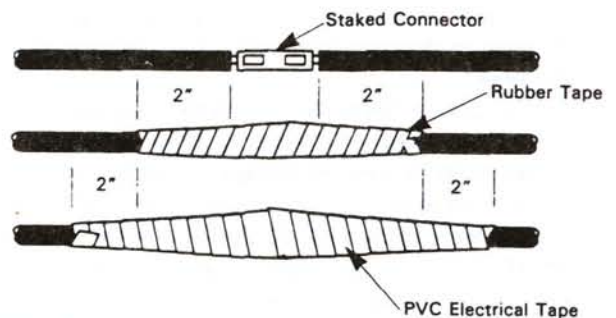

Figure 6
3. The motor lead wire assembly includes a green insulated ground lead. Splice the ground wire to the green insulated lead as shown in Figure 6.